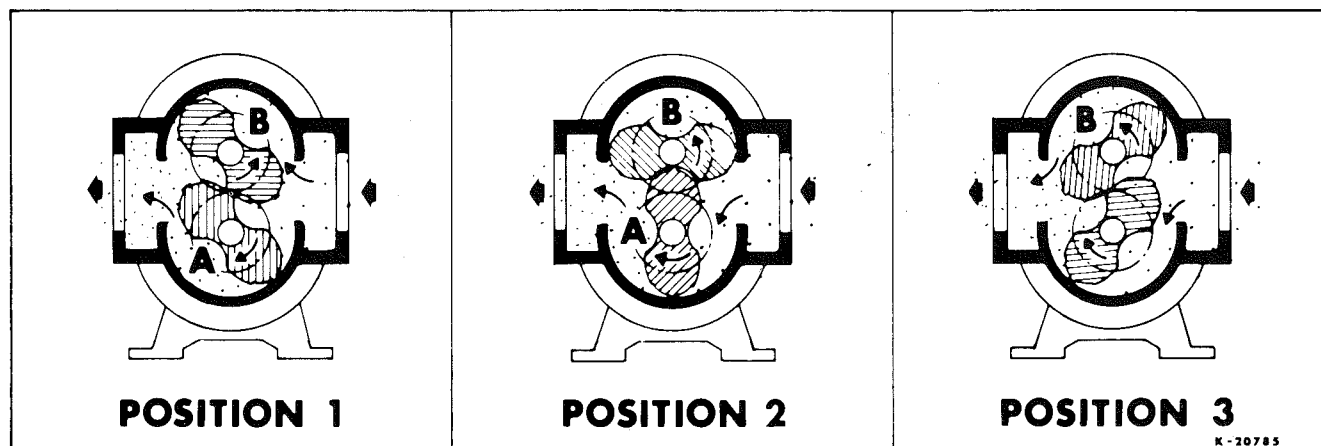

Figure 1 — Flow Through a Basic Type RAI Blower
Operating of the familiar basic rotary lobe blower is illustrated in FIGURE 1, where air flow is right to left from inlet to discharge with the bottom impeller rotating clockwise. In Position 1 it is delivering a known volume (A) to the discharge, while space (B) between the upper impeller and cylinder wall is being filled. Counterclockwise rotation of this impeller then traps equal volume (B) in Position 2, and further rotation delivers it to the discharge in Position 3. At the same time, another similar volume is forming under the lower impeller, and will be discharged when rotation reaches Position 1 again.